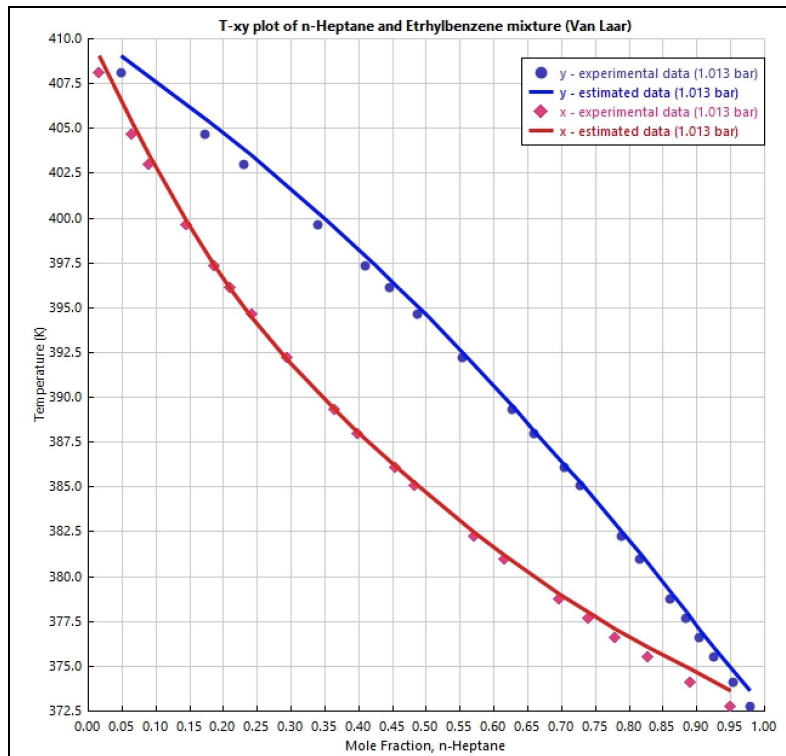

Figure 1: T-xy plot of the mixture with Van Laar Model
For each model, when deciding which binary parameters to specify for the regression, trial and error analysis was conducted multiple times for the associated parameters, by doing inferences based on the resulting standard deviation (SD) of each parameter. If the SD is too large compared to its value, it was removed from the specification and remained those who had it small, or add other parameters unspecified previously. The SD has an overall impact on RSME, where the lower the RSME value is, the better the given model fits the experimental data, as the data is closely aligned with the regression fit^[8]. In this given system, Wilson model best fits the experimental data than Van Laar model, as it has a lower RSME value. Due to that, the Wilson model is used for the rest of the analysis of this mixture. A T-xy and y-x plot for both models are as shown in Figure 1 - 4 in the following page.